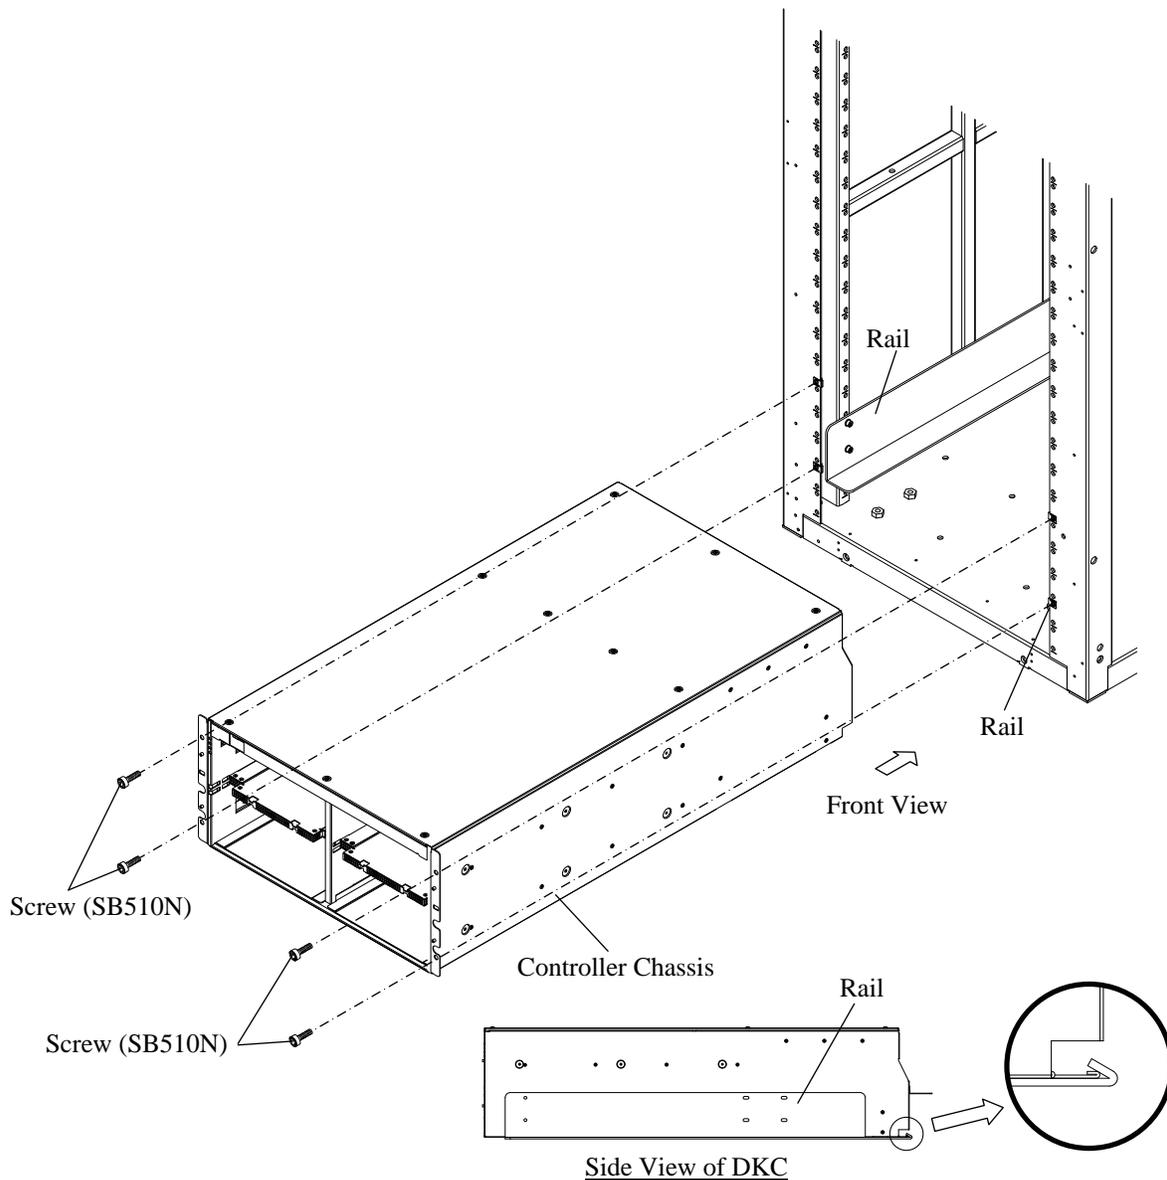

Fig. 3.40.1-9 Replacement of Controller Chassis
- a. Insert the MPB until its lever edges reach the DKC. (See Fig. 3.40.1-3.)